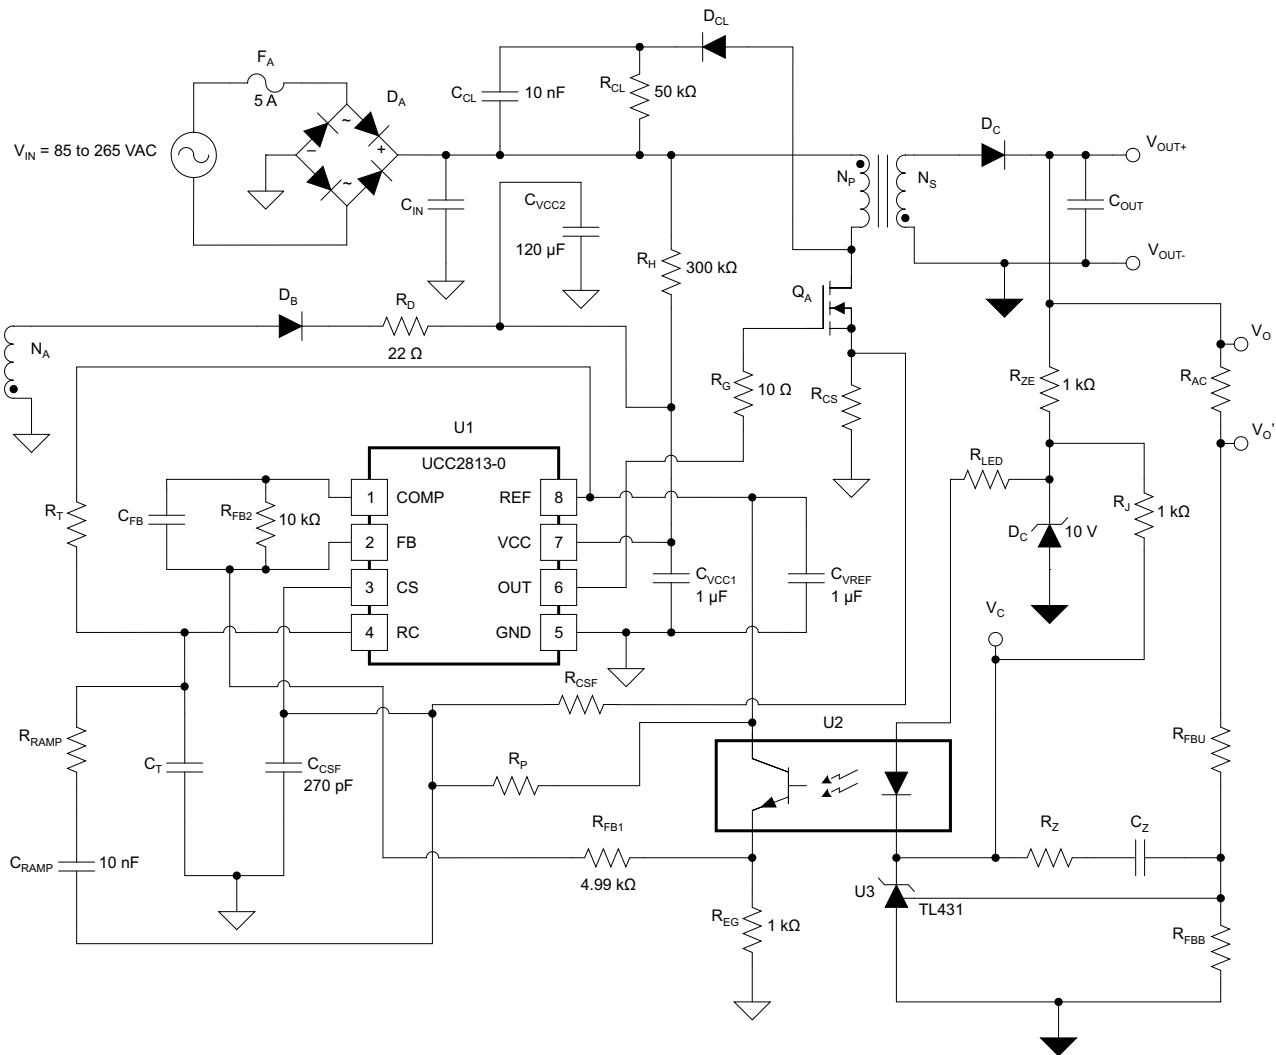

Figure 33. Typical Application Circuit Diagram
Figure 33 illustrates a typical circuit diagram for an AC-DC converter using the UCC2813-0 in a peak-current-mode-controlled flyback application.
The DC open-loop gain (G_O) of the fixed-frequency voltage control loop of a peak-current-mode control CCM flyback converter shown in Figure 33 is approximated by first using the output load (R_{OUT}), the primary to secondary turns ratio (N_{PS}), and the maximum duty cycle (D) as shown in Equation 18.